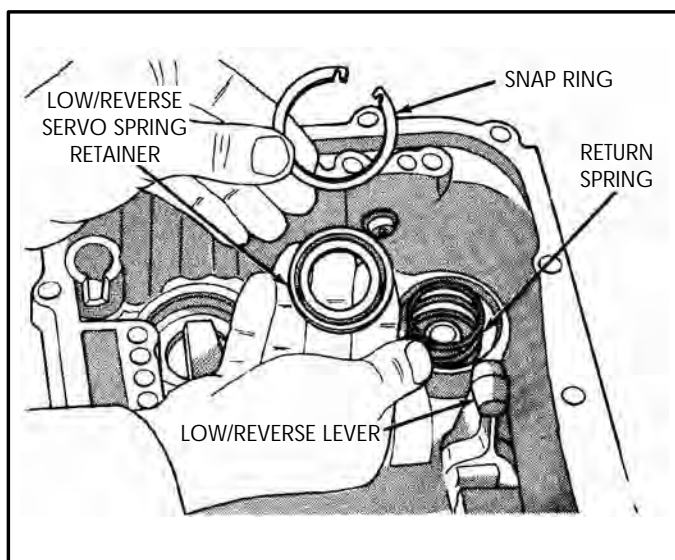

Figure 218
14. Install the servo return spring retainer on top of spring, as shown in Figure 218.